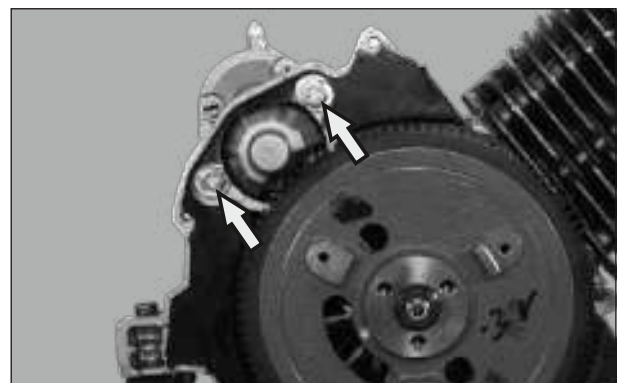

Fig. 3.45
- Loosen & remove 2 nos. hexagonal bolts of (M8X40) along with from crankcase LH. (Fig.3.45)